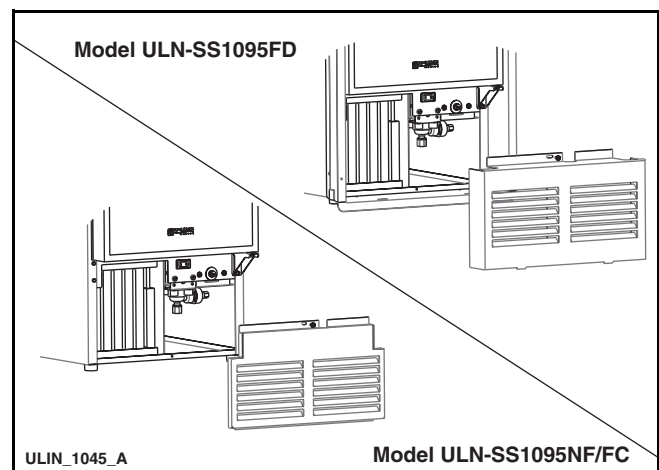

Figure 8
2. With a standard blade screwdriver or 1/4" nut driver, remove the grille screw (**Figure 8**).
6. Insert the grille screw (**Figure 8**) and tighten. Do not over-tighten.
3. With a standard blade screwdriver or 1/4" nut driver, remove the grille screw (**Figure 8**).
Align the grille and cabinet screw holes (**Figure 8**).
10. Insert the grille screw (**Figure 8**) and tighten. Do not over-tighten.